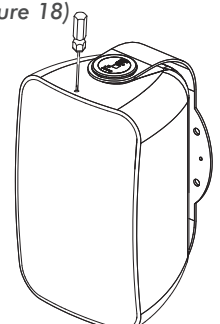

FIGURE 18:
12. Install the grille retention screws (see figure 18)